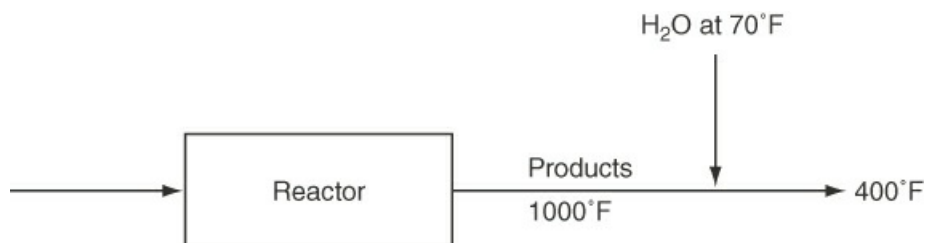

Figure P8.4.25
****8.4.25** Hot reaction products (assume they have the same properties as air) at 1000°F leave a reactor. In order to prevent further reaction, the process is designed to reduce the temperature of the products to 400°F by immediately spraying liquid water into the gas stream. Refer to Figure P8.4.25.